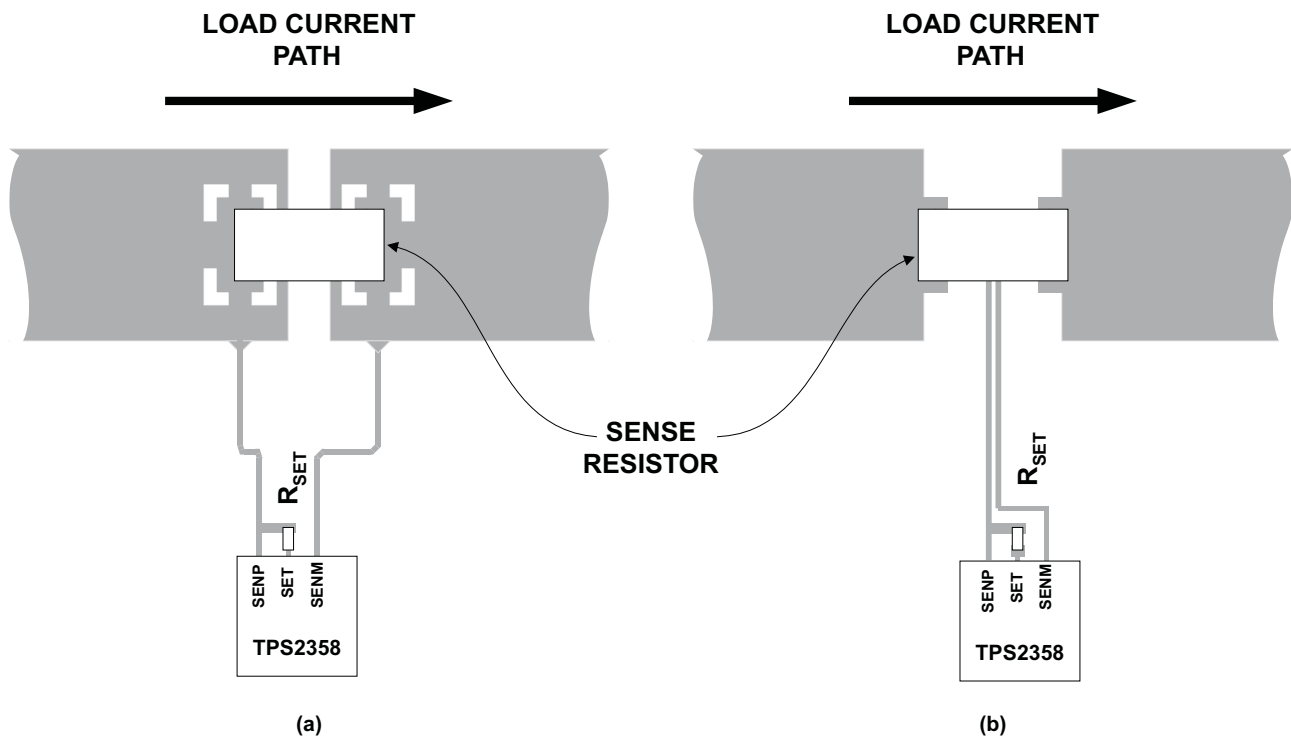

Figure 26. Recommended RSENSE Layout
- SENMx and SENPx runs must be short and run side by side to maximize common mode rejection. Kelvin connections should be used at the points of contact with RSENSE (Figure 26).